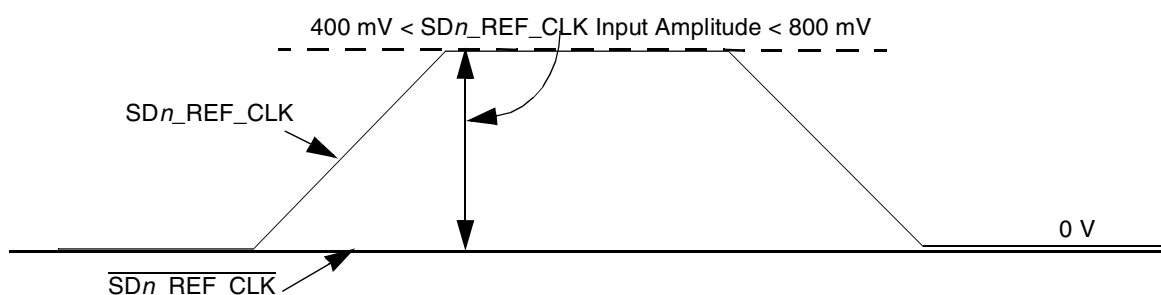

Figure 55. Single-Ended Reference Clock Input DC Requirements
- The $\overline{SDn_REF_CLK}$ input average voltage must be between 200 mV and 400 mV. Figure 55 shows the SerDes reference clock input requirement for single-ended signaling mode.